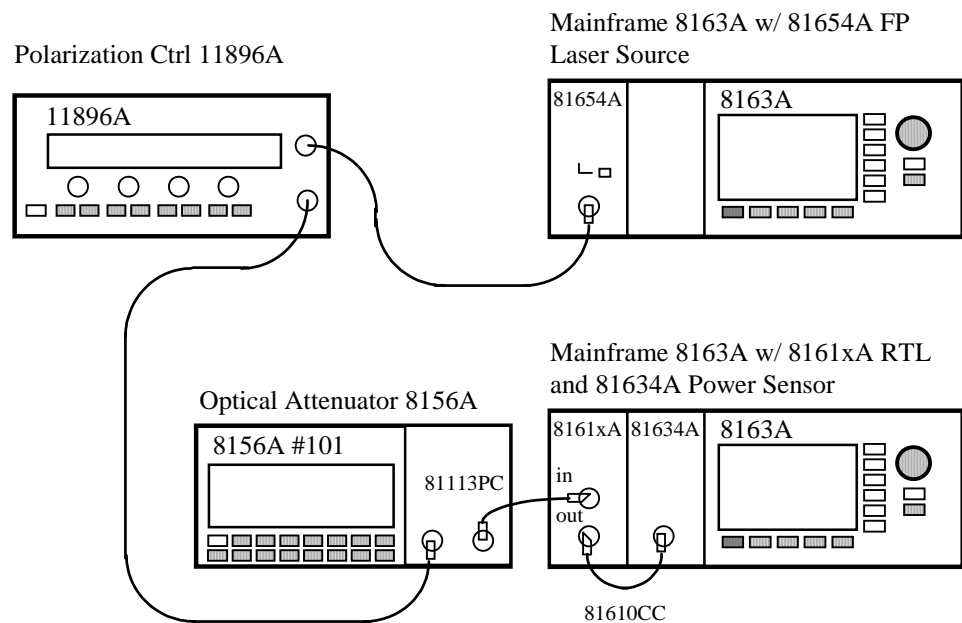

Figure 44 81610CC Reference Cable - Adjusting Input Power to 0.0 dB Return Loss
- 11 Disconnect the 81610CC Reference Cable from the Attenuator, and connect the straight end to the Power Sensor module, as shown in Figure 44